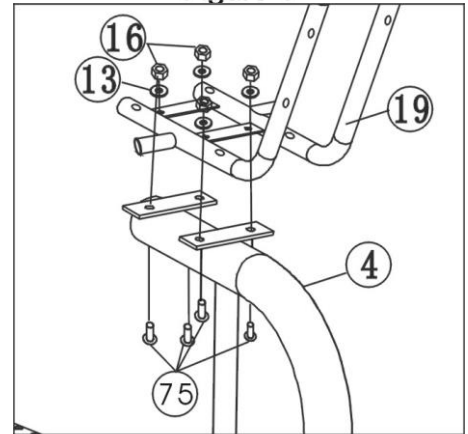

Figure 5
Attach the Seat cushion frame (19) with eight M8\*16 Bolts (75), $\varnothing$ 8 Flat washers (13) and M8 nylon nuts (16). (See figure 5)